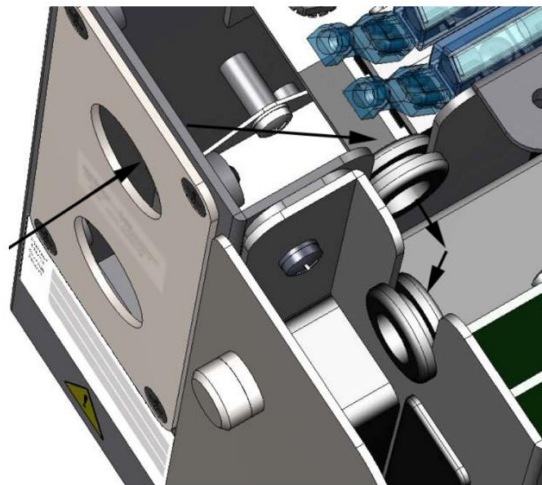

Figure 13: Routing the I/O Cables (Detail)
3. Route the I/O cables into the Sensor through the power module panel pass-through port. See Figure 13: Routing the I/O Cables \(Detail\).